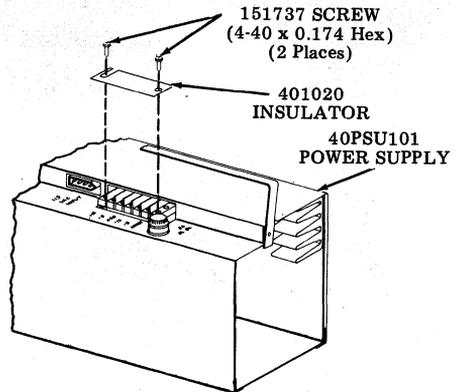

Fig. 3
2.01 Remove the two screws holding the 401020 terminal block insulator in place and remove the insulator (Fig. 3).